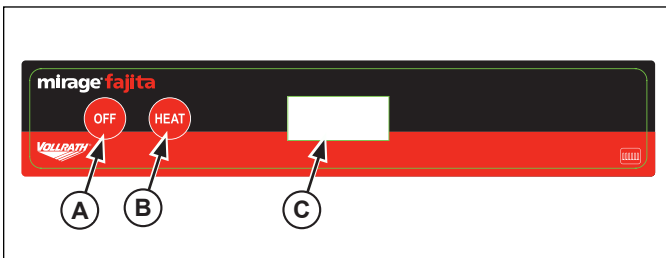

Figure 1. Control Panel
2. Press the HEAT button (B). The heating cycle will begin and the preset timer will begin to countdown on the display panel (C). See Figure 1.